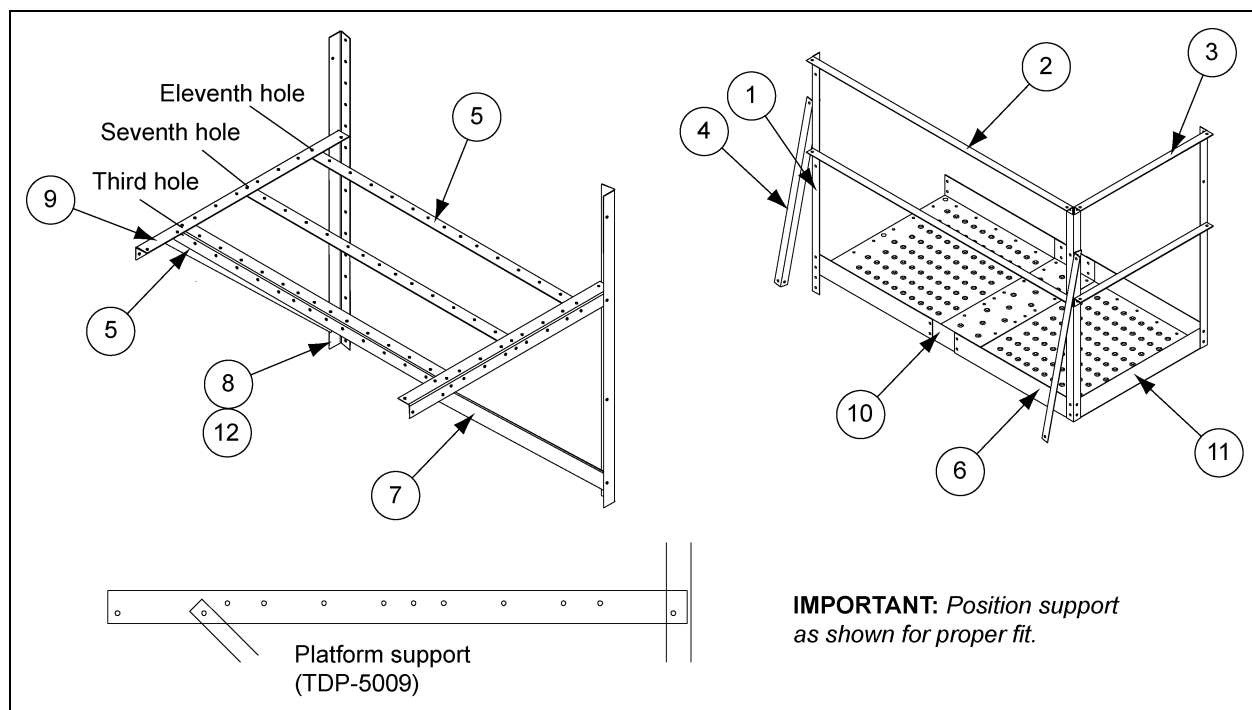

Figure 9N
Refer to Figure 9N for proper location of access door platform. Begin by assembling the access door platform support frame using 5/16" x 3/4" truss head bolts and nuts. When attaching platform vertical support to bin sidewall field drill sixteen (16) 3/8" diameter holes for each support spaced every 4". Be sure and use 5/16" x 3/4" bin bolt on vertical support to sidewall. Special attention should be taken when assembling the platform support that the support brace is placed correctly.